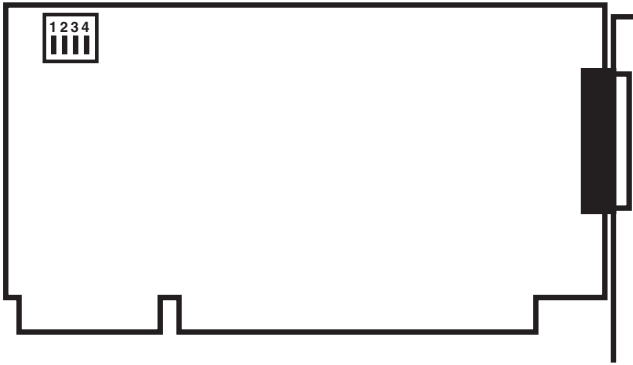

Figure 4-1. Location of the Card's DIP switch.
7. Locate the DIP switch in the upper left-hand corner of the Card (see Figure 4-1 below).